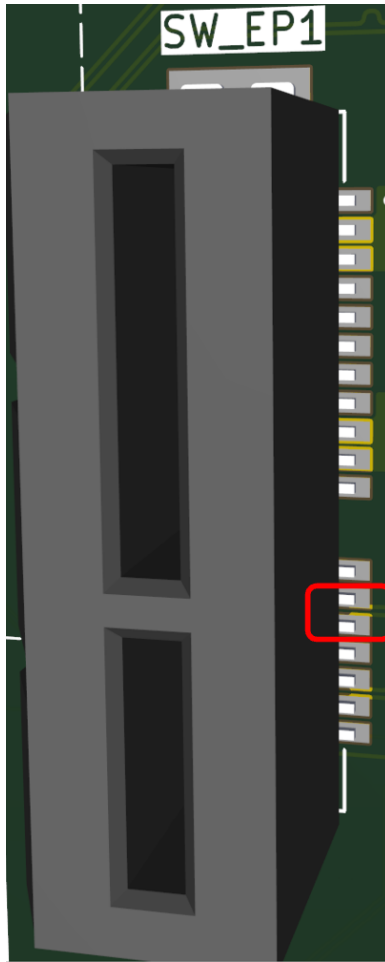

Figure 6: Measurement points on SW_EP1
- Probe the clock pins (A13/A14) on **SW_EP1**. **Refer to Figure 6.**